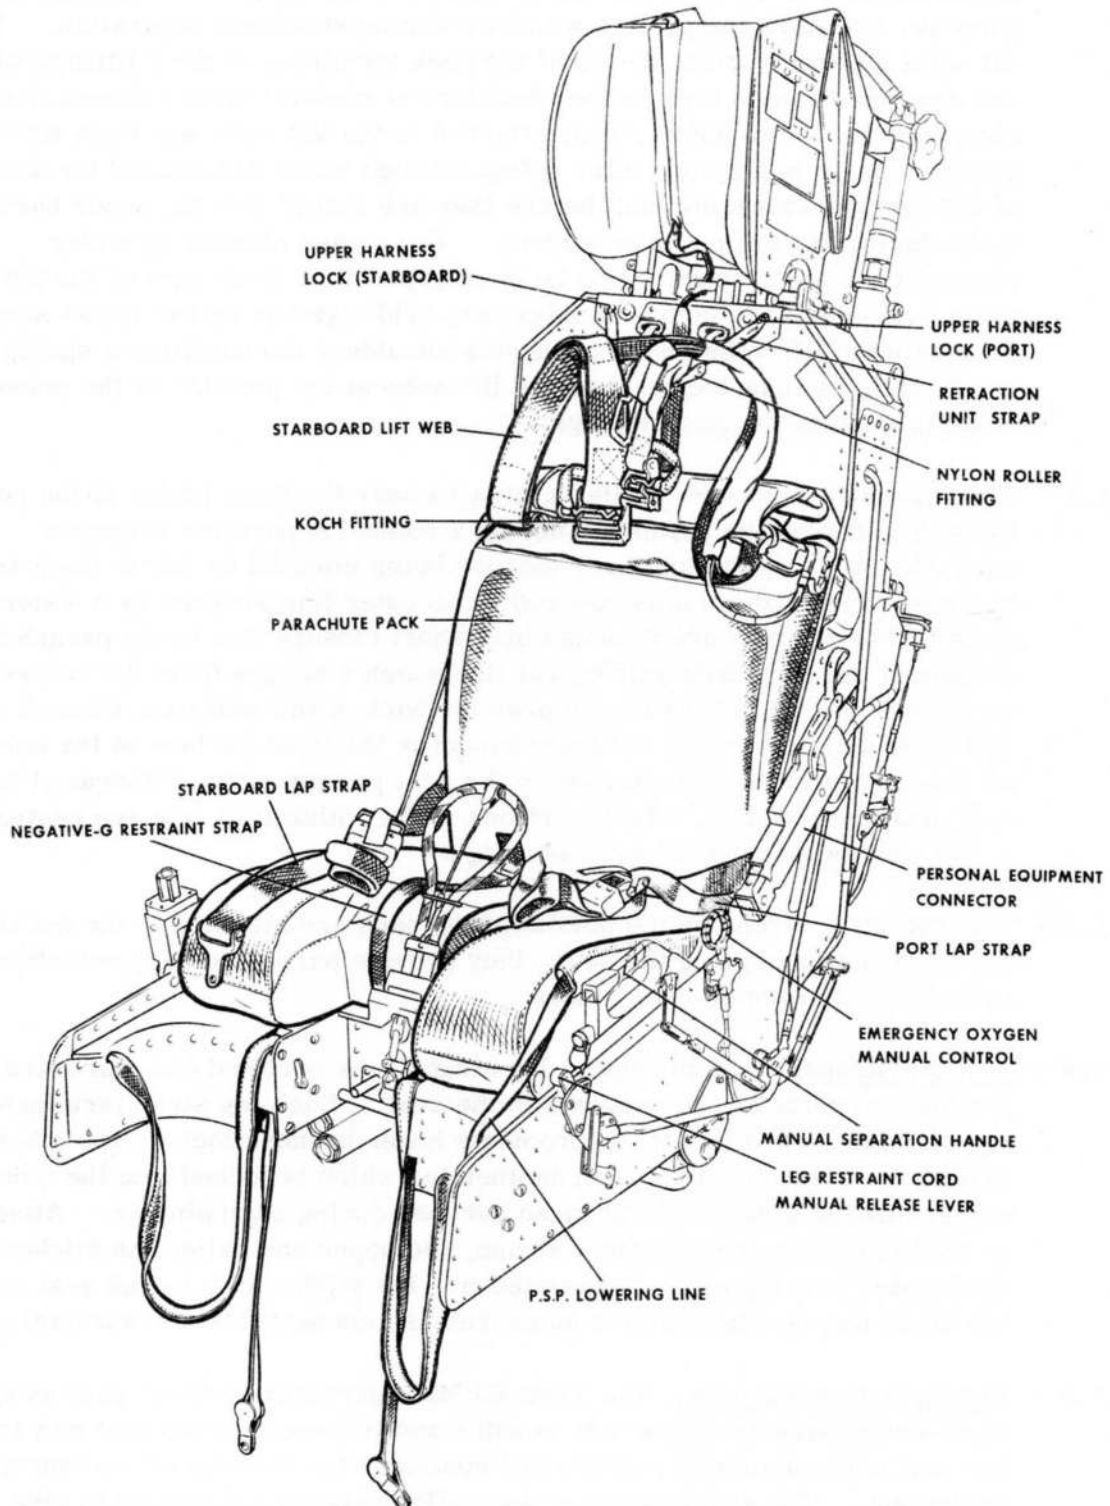

Fig 1 Type 9B Mk 2 ejection seat equipped (port view)
2 - DESCRIPTION (figs 1 and 2)
- 4.1 - The following procedure is to be used when installing the equipment in the seat, refer to figs 1 to 10 for detail as necessary. The seat may be equipped before installation if this is advantageous:-